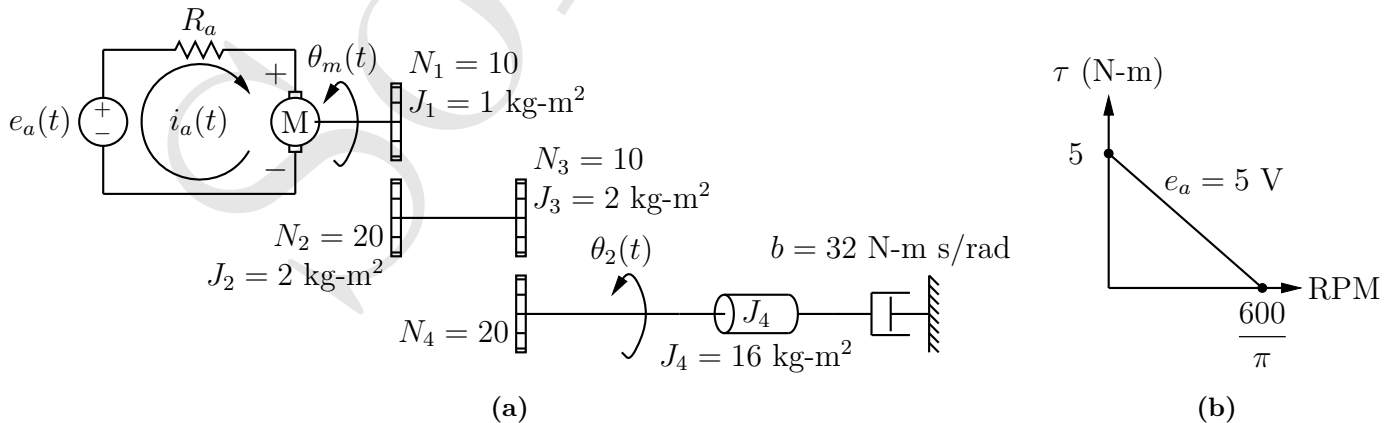

Figure 4: Motor system
3. The motor whose torque-speed characteristics are shown in Figure 4 drives the load shown in the diagram. Some of the gears have inertia.